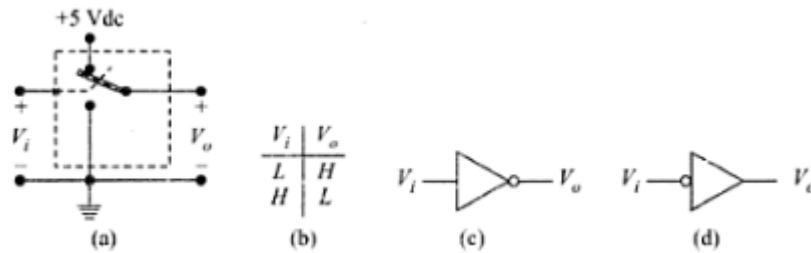

Figure 1.10: Digital inverter (a)Model (b)Truth table (c)Symbol
- Negation operation requires a circuit that will invert a digital level. This logic circuit is called an *inverter* (Figure: 1.10).